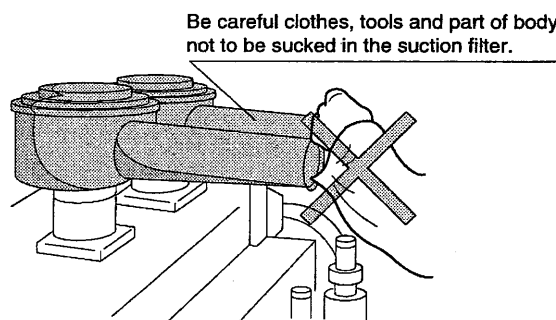

Fig. 7
- * ***Do not approach the suction filter during operation of the compressor. You will be sucked by strong sucking force. (Fig. 7)***